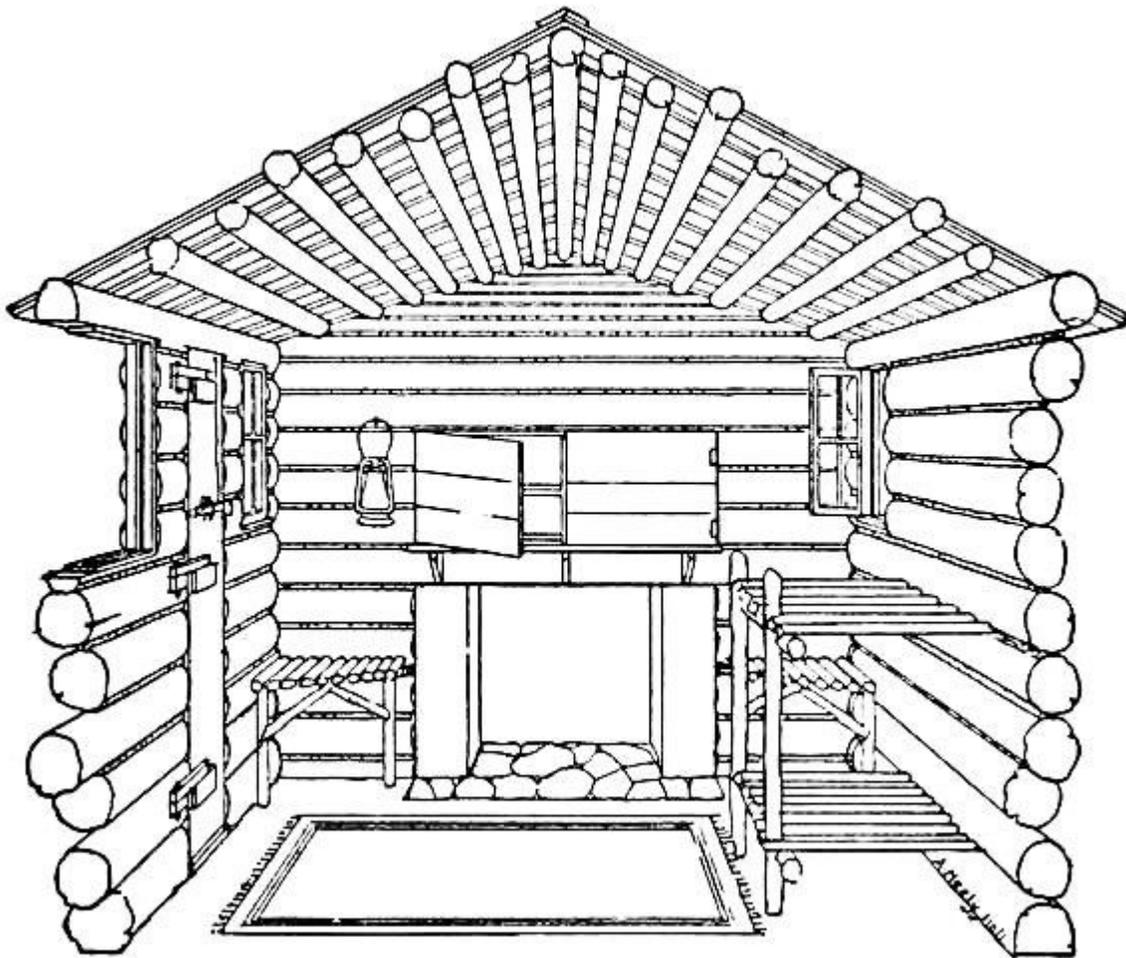

FIG. 192.—Interior of Cabin.
**To construct the Roof.**—There are several ways of doing this, but as simple as any is that shown in Fig. 192, and in the illustration of the finished cabin. In laying this form of roof the end logs are placed one above the other, but each tier of front and rear logs is set in a little farther than the preceding pair, until they finally meet at the peak of the roof. The roofs of cabins are generally thatched or covered with bark, shingles, or boards. The thatched roof is the most artistic, and will last from ten to fifteen years when properly made; but unless the straw is put on very thickly and closely woven, it is likely to leak. If you use shingles and expose each four and one-half inches to the weather, you will require about seven quarter-thousand bunches for a roof of this size.
Boards will make the most simple and inexpensive covering. They should be put on as shown in the drawing of the completed cabin, and in Fig. 192. A layer of boards is first nailed across the roof-supports four inches apart, and other boards then lapped over these spaces and nailed in place. The roof boards should project a few inches over the side walls and gable-ends of the cabin. When all of the boards have been put in place, it will be necessary to finish off the ridge with
**Ridge Boards**, to prevent water from leaking through the roof at that point. As shown in Fig. 192, these consist of two boards nailed along the ridge, and the edge of one nailed to the edge of the other.
**Provision Cupboard** to sit upon this, as shown in the drawing of the cabin interior (Fig. 192). Use a couple of the boxes in which you bring your camping outfit for this. Set them side by side, as in the illustration, place a shelf or two within them, and, after battening the cover boards together, attach them to the ends of the boxes with hinges cut out of leather.
**Two Bunks** for guests, who are almost certain to pay you a visit to see what kind of a time you are having, and perhaps test your cooking. These bunks may be double-decked and placed in the corner where they will be pretty well out of the way (see Figs. 190 and 192). Two six-foot poles should be driven into the ground about thirty inches from the wall, and two cross poles notched and fitted on to them as shown in Fig. 192, one six inches above the ground and the other three feet above that. Cut a number of sound sticks about three feet long and drive one end of each between the logs of the wall and fasten the other end to the crosspiece opposite. These sticks should be placed about three inches apart. In putting up this framework make everything very strong and solid, to prevent any mishaps to the occupants. The bunks should now be covered with pine boughs, cut into small pieces and spread over the sticks evenly and to a depth of two inches. When these have been properly placed, spread a doubled quilt or blanket over them, and the bunks will be completed.